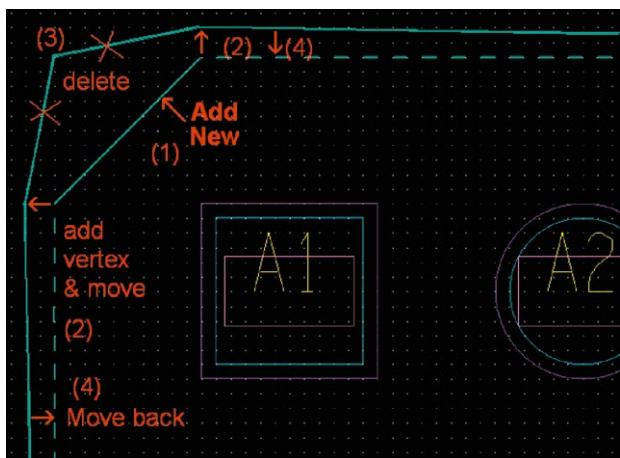
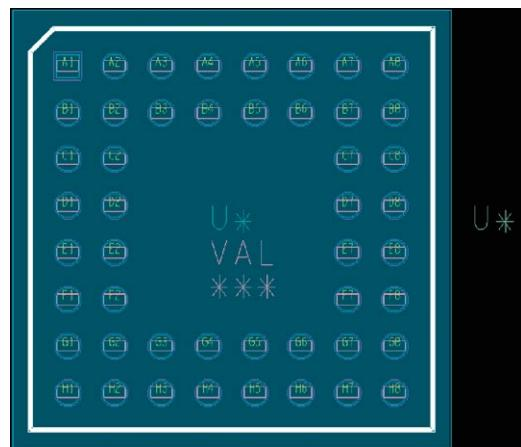

FIGURE 8-33
FIGURE 8-34
We now add a beveled corner to the assembly outline at the corner at pin 1, as shown in Figure 8-34. Begin by zooming into the upper left corner of the symbol. Select the Add Line tool; at the Options pane, select Package Geometry/Assembly_Top and select Line and 45 as the Line Loc: options. Draw a diagonal line in the upper left corner as shown at (1) in Figure 8-33.
(2) in the figure) and move the vertex out 20 mils or so to create an angle. Do this at each end of the new line.
Next delete the line segments (shown at the Xs near (3) in Figure 8-33). To delete part of a line segment disable any current tool (right click and select Done from the pop-up menu—if it is available; if it is not, no tools are selected). Hover your pointer over one of the line segments so that just the segment is dashed. Left click the segment to permanently select it. Select the Delete tool from the toolbar and only the segment will be deleted. If you select the Delete tool first then select the line, the entire outline will be deleted. Finally move the remaining line segments (the (4)s in the figure) back to the ends of the diagonal line (use the Vertex tool not the Move tool). Perform the same steps on the silk-screen outline and change the silk-screen outline width to 5 mils.
Select File → Save to save the drawing and update the .psm file. The completed footprint is shown in Figure 8-34.